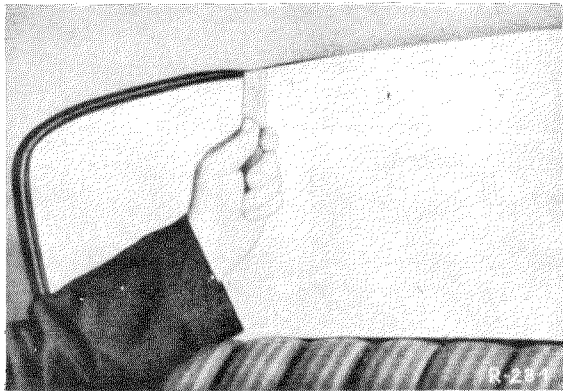

Fig. 67 — 3/1
1. Working from inside the car, use a flat piece of wood to push the lip of the rubber molding behind the sheet metal edge (Fig. 67 — 3/1). In this way, loosen one half of the rubber molding (from upper to lower center).